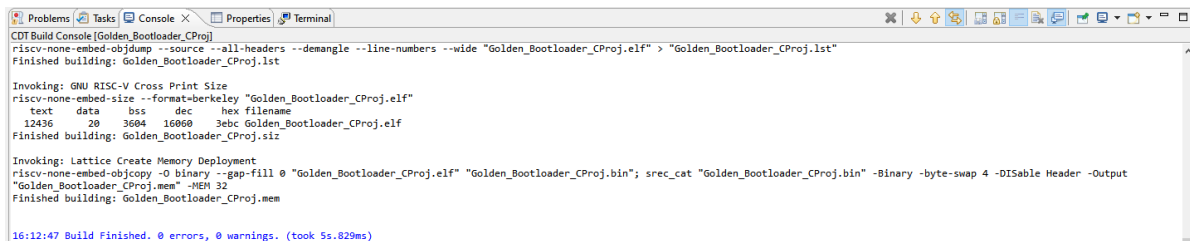

Figure C.42. Completing Process
16. Wait for the process to reach 100%. After completion, the message shown in Figure C.42 appears on the console.